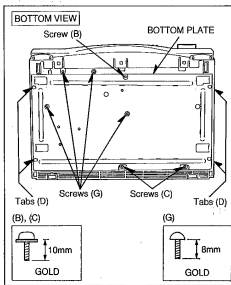

Fig. D3
Remove..... 4 Screws (G) [Fig. D3]
Remove..... 2 Screws (C) [Fig. D3]